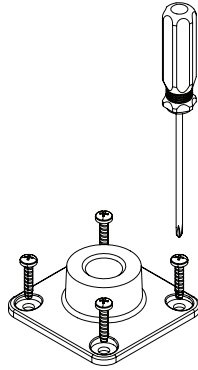

Figure 2
1. Use four wood screws (not supplied) to attach the mounting bracket to any wood surface. If mounting to materials other than wood, use screws and anchors (not supplied) that are appropriate for the material (see Figure 2).